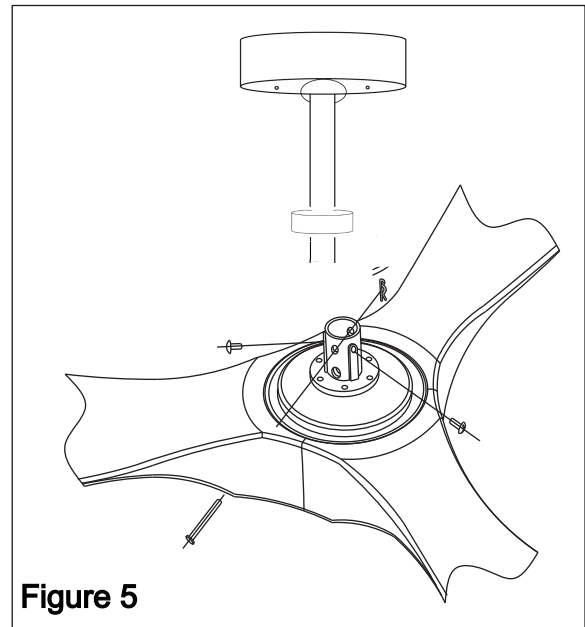

Figure 5
5. Loosen two set screws on the downrod support and then place the downrod into the downrod support. (Figure 5). Thread the electrical wires and the earth wire through the downrod.